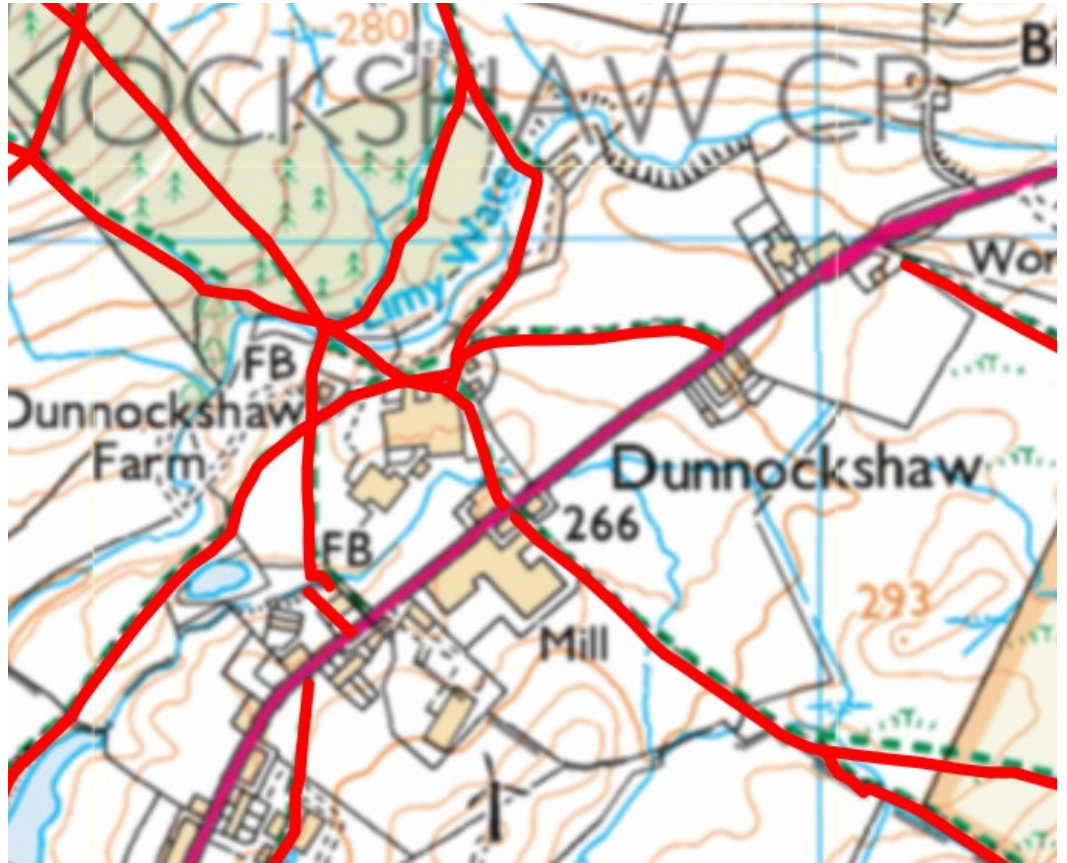

Figure 1 – Rights of Way near Application Site
- 2.8 The plant site is located in a framework of public rights of way including Footpaths 1205 007#2; 1205 009# amongst others. These are shown on Figure 1 below.